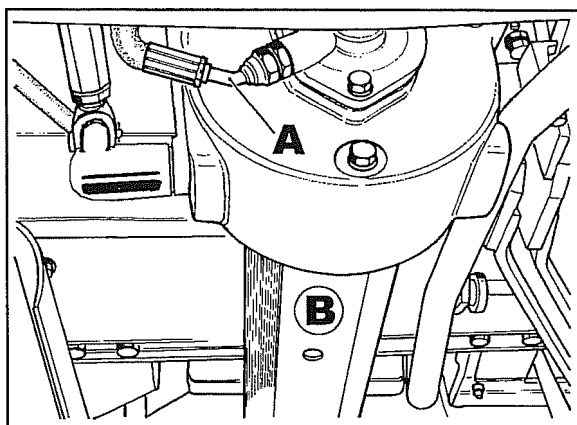
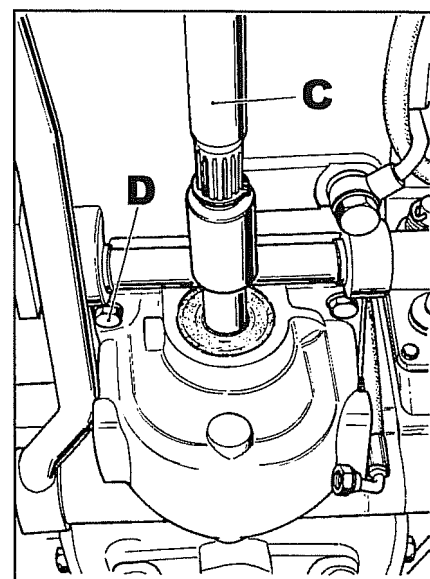

Fig. 1
Fig. 2
- 2 Disconnect the oil delivery hose **A** fig. 1, remove the guard **B** and disconnect the transmission shaft **C** fig. 2.
- 4 Remove the 4 screws **D** fig. 2 and remove the dual traction box.